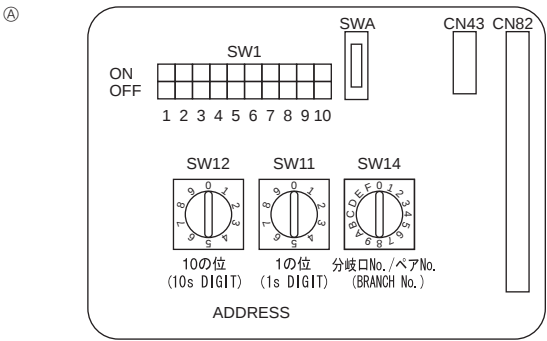

Fig. 6-4
6.5. Setting addresses (Fig. 6-4)
- ① How to set addresses